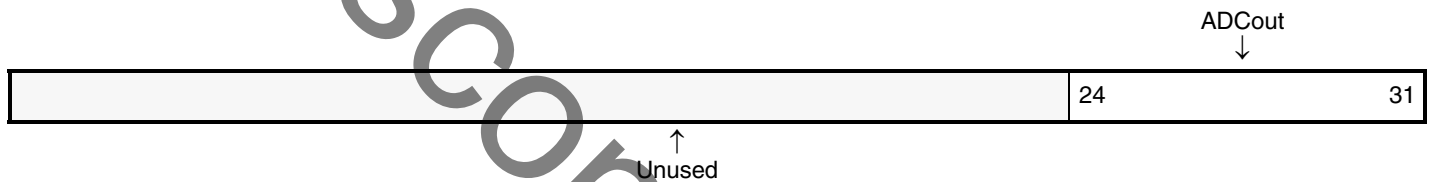

Figure 5: ADCout Data FIFO (C_DACIN_WIDTH = 9)
5. The bit mapping is shown in Figure 5.
This 16 entry deep SRL FIFO contains data to be output by OPB Delta-Sigma ADC. The FIFO bit definitions are shown in Table 9. Reading of this location will result in reading the current word out from the FIFO. Attempting to write to a full FIFO is not recommended and the results in that data being lost. Figure 5 shows the location for data on the OPB when C_DACIN_WIDTH is set to 9.